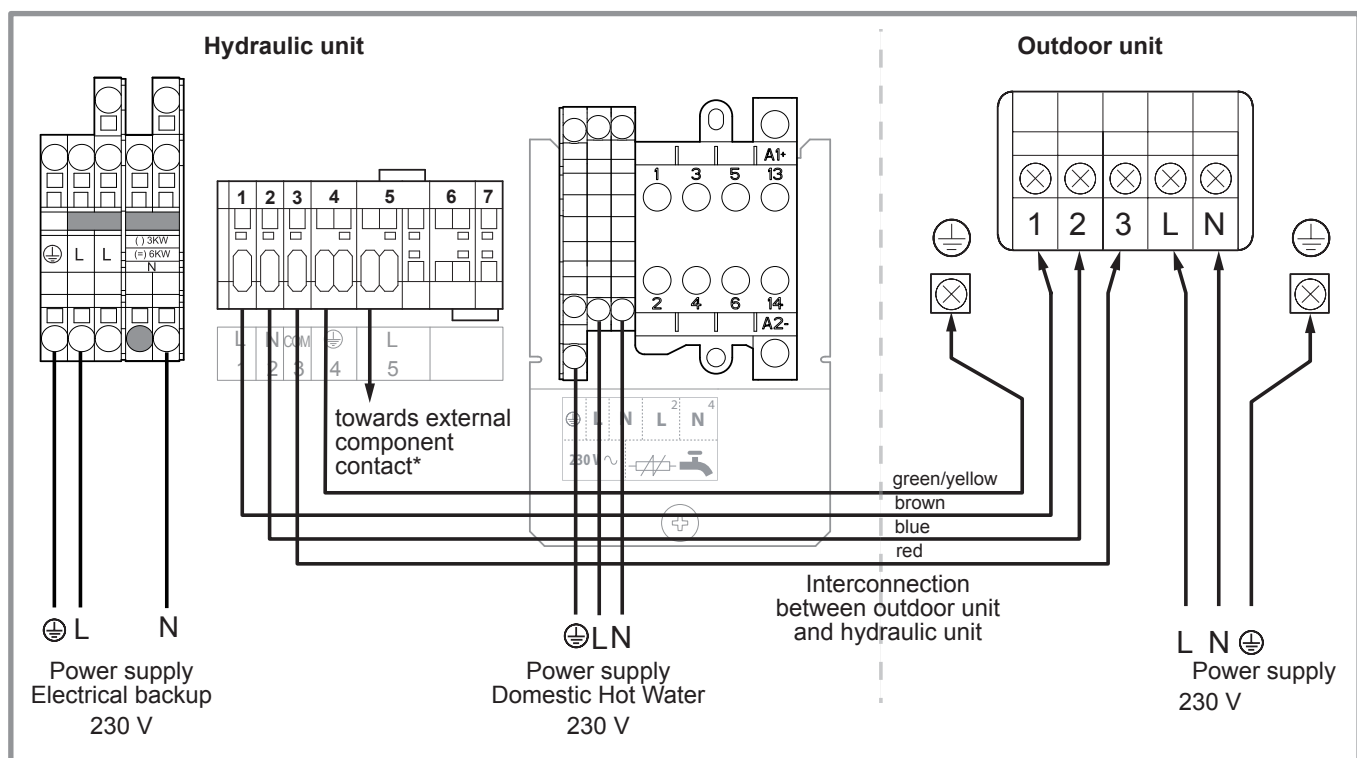

figure 37 - Connection to terminal blocks and power relay
- Make the connections according to the diagram (figure 37).